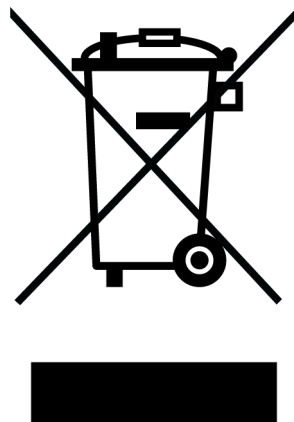

Figure 12: Crossed out "wheelie bin" symbol
- marked correspondingly with the crossed out “wheelie bin” logo (Figure 12)